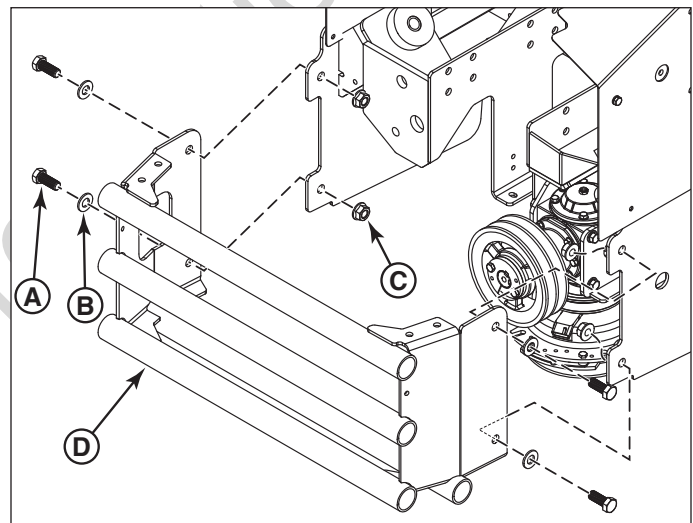

Figure 4. Remove the Rear Bumper
7. Remove the 1/2-13 X 1-1/4" bolts (A, Figure 4) 1/2 SAE washers (B) and 1/2-13 hex nylock flange nuts (C) that secure the bumper (D) to the rear of the machine. Remove the rear bumper. Discard the nuts.
18. Re-install the bumper (**D, Figure 4**) to the rear of the machine and secure in place using four (4) 1/2-13 X 1-1/4" bolts (**A**) 1/2 SAE washers (**B**), and new 1/2-13 hex nylock flange nuts (**C**).